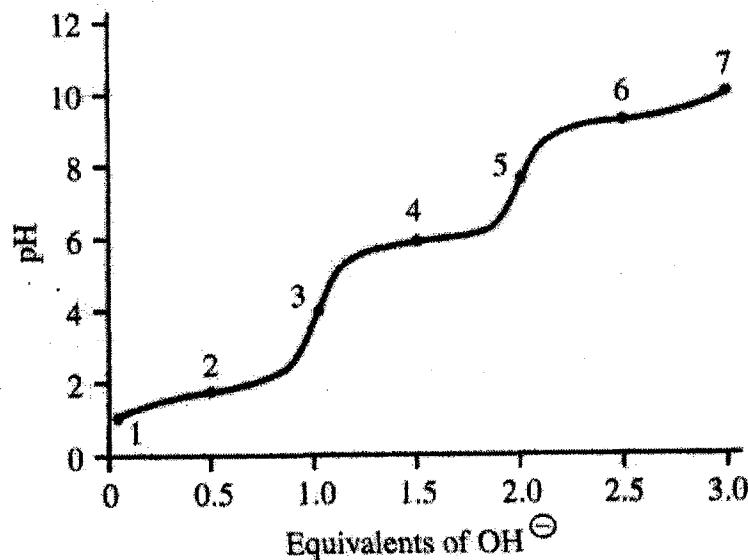

Figure 5. [b].
- [b] The titration curve for histidine is shown in Figure 5. [b]. The pKa values are 1.8 ($-\text{COOH}$), 6.0 (side chain) and 9.3 ($-\text{NH}_3^+$).